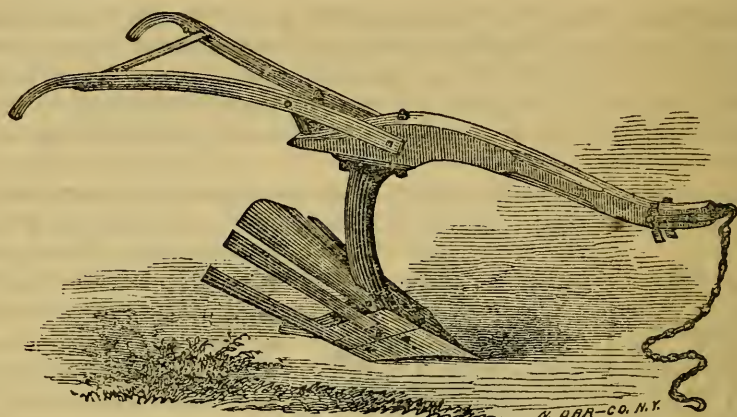

Fig. 159—ALLEN'S POTATO-DIGGER.
**ALLEN'S POTATO DIGGER**.—Digging potatoes by hand is a most laborious task. We are glad to find the attention of inventors turned to some means of doing it by horse labor. We have recently made a trial of the potato-digging plow manufactured by R. L. Allen of New-York, (fig. 159,) on a principle similar to that of Lawson's English potato-digger, and find